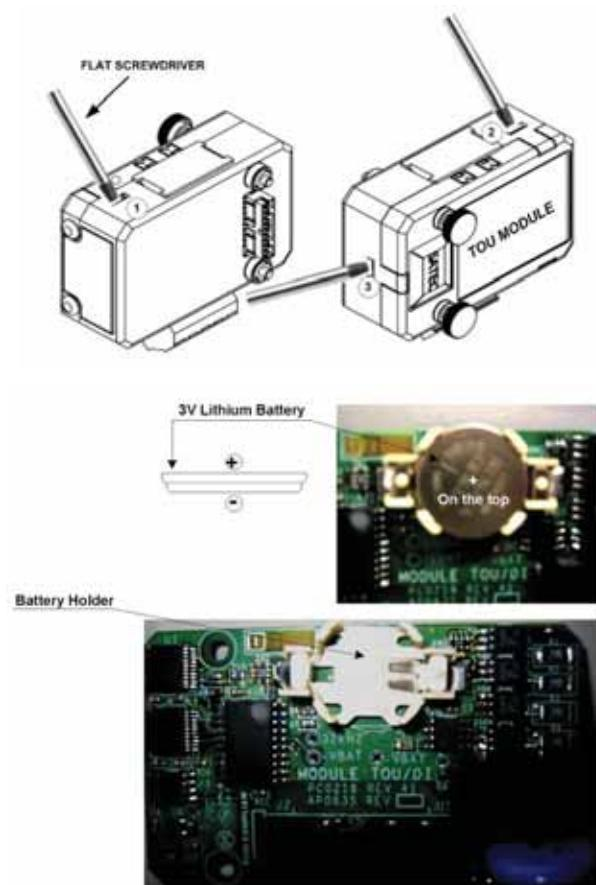

Figure 2-26 TOU RTC Battery Replacement
2. Open the TOU MODULE case by applying a flat screwdriver at three snap-in slit (1, 2 and 3), as shown in Figure 2-26.
4. Place the new CR1632 battery into the battery holder while holding up the battery holder retractable tab in such a way that the (+) battery pole is toward the battery holder, as shown in Figure 2-26.